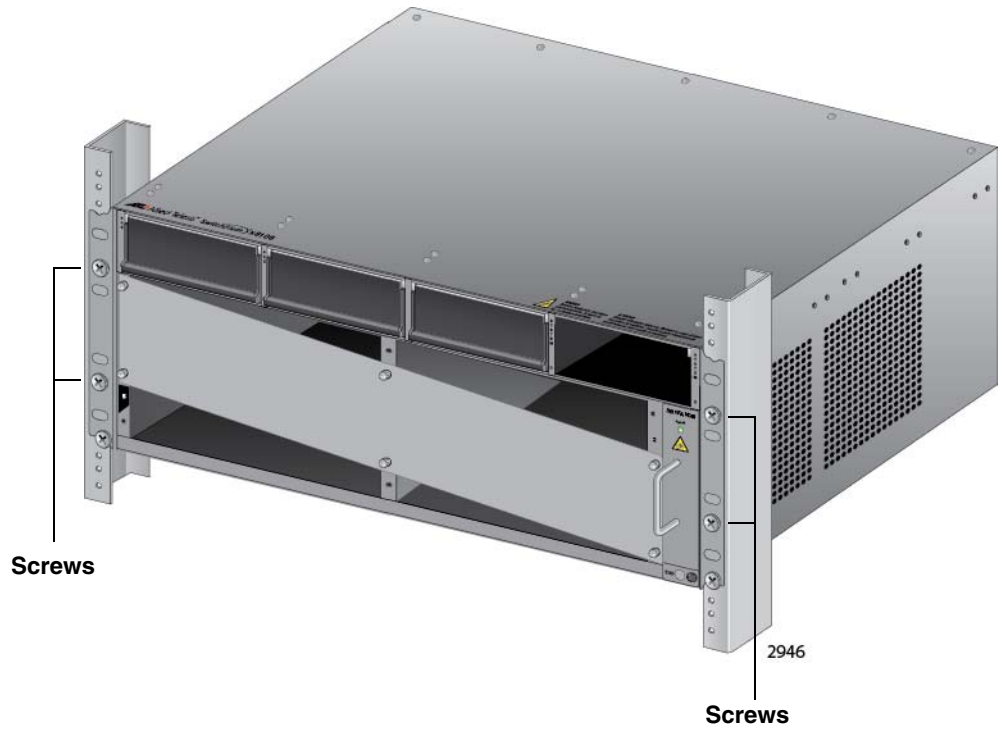

Figure 43. Installing the Rack Mount Screws
4. Install four rack mount screws (not provided) to secure the chassis to the equipment rack, as shown in Figure 43 on page 118.